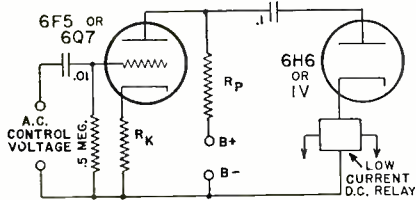

Fig. 2.
Figure 2 shows the details of construction and connections at the center of the half-wave radiator. The insulator (3) is again a piece of 1" *Polystyrene* rod, drilled and turned down as shown in the cut-away sectional view. This is force-fitted into the top of the lower ¼-wave radiator sleeve (8), and into its upper part is force-fitted and cemented with coil dope a piece of brass tubing (2), the bottom of which is closed by soldering on a metal disc through which has been drilled a hole of sufficient size to pass the inner conductor (6) of the feed line. This serves as the socket into which the removable top ¼-wave radiator (1) fits tightly.
In assembling the antenna the insulator of Figure 2, after being prepared as described above, is slipped over the end of the cable with the center conductor of the latter extending up into